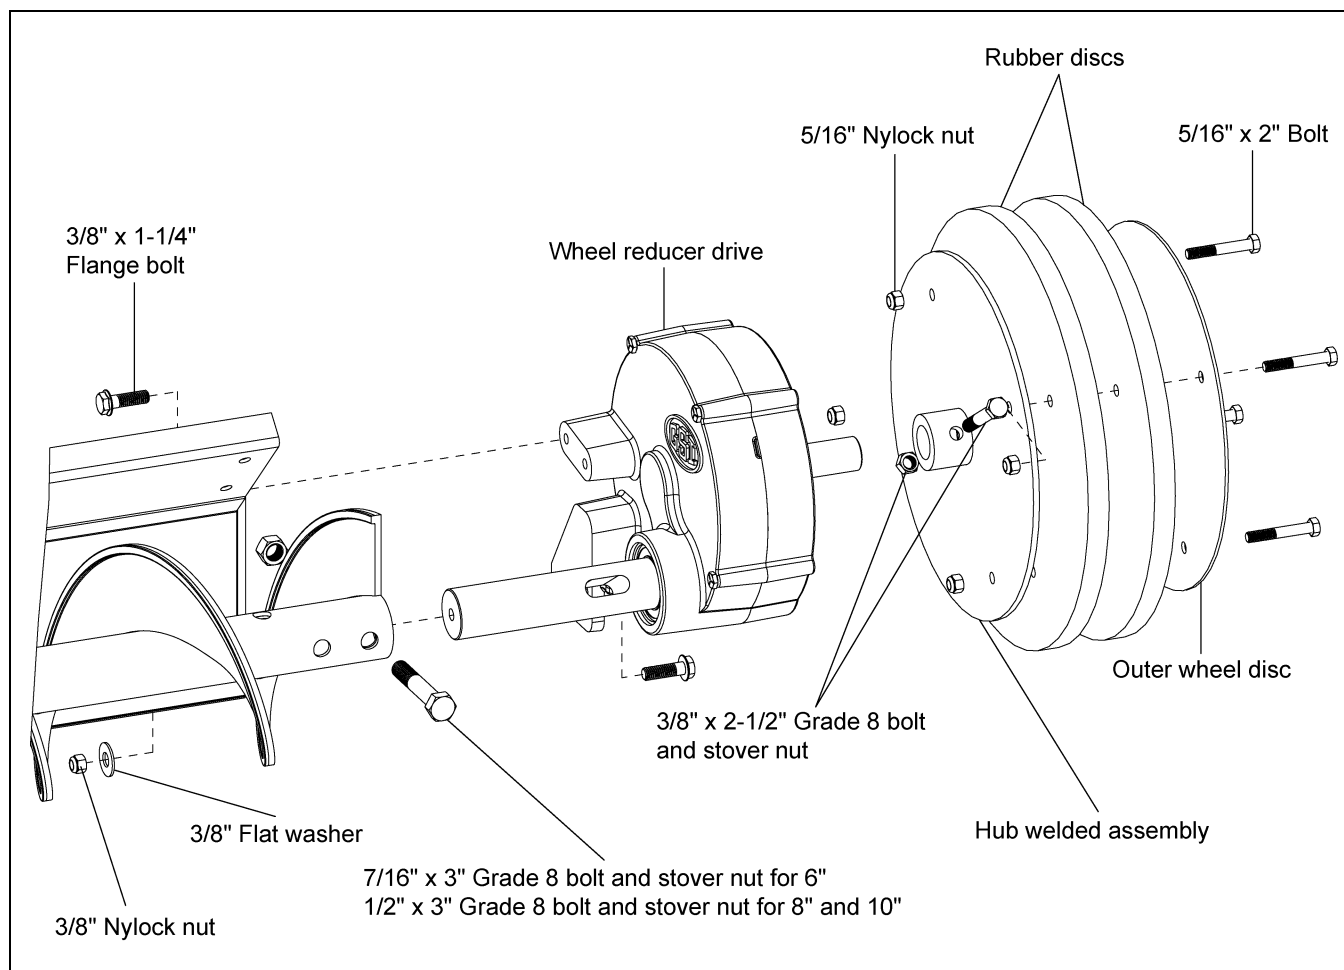

Figure 4F
1. Insert the input shaft of the reduction drive into the open end of the flight. Attach the drive to the flight with one 7/16" x 3" grade 8 bolt and stover nut for 6" or one 1/2" x 3" grade 8 bolt and stover nut for 8" and 10". (See Figure 4F.)
2. Mount the reducer to the back shield with two (2) 3/8" x 1-1/4" serrated flange bolts, one flat washer and nylock nut.
4. Attach the rubber discs and outer wheel disc to the wheel hub welded assembly with four (4) 5/16" x 2" grade 2 bolts and nylock nuts. (See Figure 4F.)